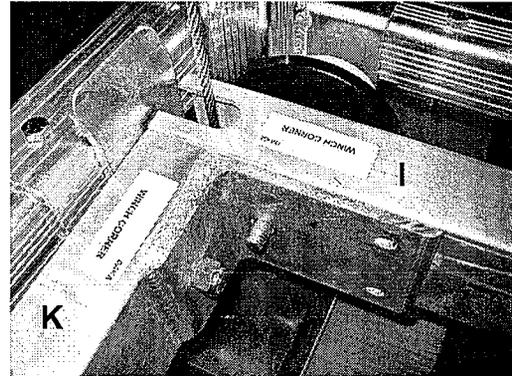

FIG. 18
5. Position the carriage cross beam I with one cable at the end of the lift where the winch post leg is located as shown in FIG. 18.
6. Locate the side carriage tubes and place them into position as shown in FIG. 18, 19, & 20. Refer to FIG. 18 and remove the 1/2" nyloc nut from the bolt that is in the carriage cross beam I. This bolt will need to be pulled back an inch or so, so that the threaded end is flush with the outside of the tube. **Do not remove the bolt.** The bolt holds together a pulley and cable assembly inside the carriage cross beam that is difficult to get back together once the bolt has been removed.
8. Once side carriage tubes are in position, push bolt through hole and reinstall nut as shown in FIG. 18, 19, & 20.
Note: Side carriage tube and carriage cross beam should be level with each other (See FIG. 18 & 19).